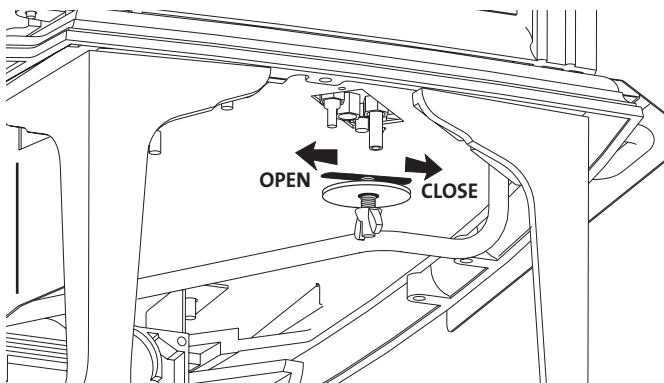

Figure 25. Loosen the wingnut to adjust the air shutter.
1. Reach under the right side of the stove and loosen the wingnut located closest to you. See fig. 25. Slide the wingnut stud forward to open the air shutter and back to provide less air. Make adjustments in small increments.